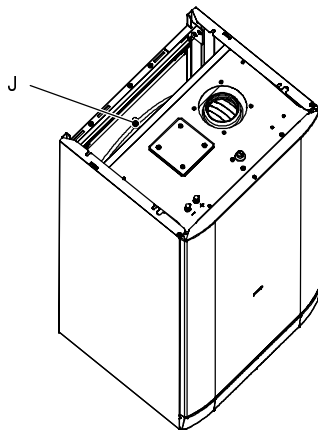

Fig. 62
- 2 Remove the protective cap J (Fig. 62) from the valve on the top of the expansion vessel and connect a suitable air pressure gauge.